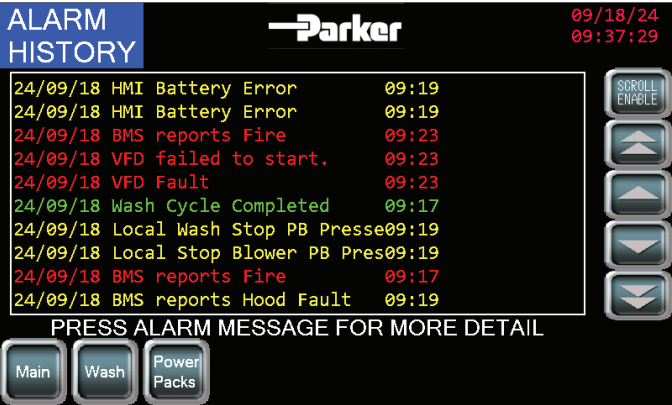

FIGURE 27. Alarm History Screen
- 9. Alarm History spans for 100 FIFO (first in, first out) events. Although not an alarm or warning, the history also includes Wash Cycle Completed as shown in Figure 27.